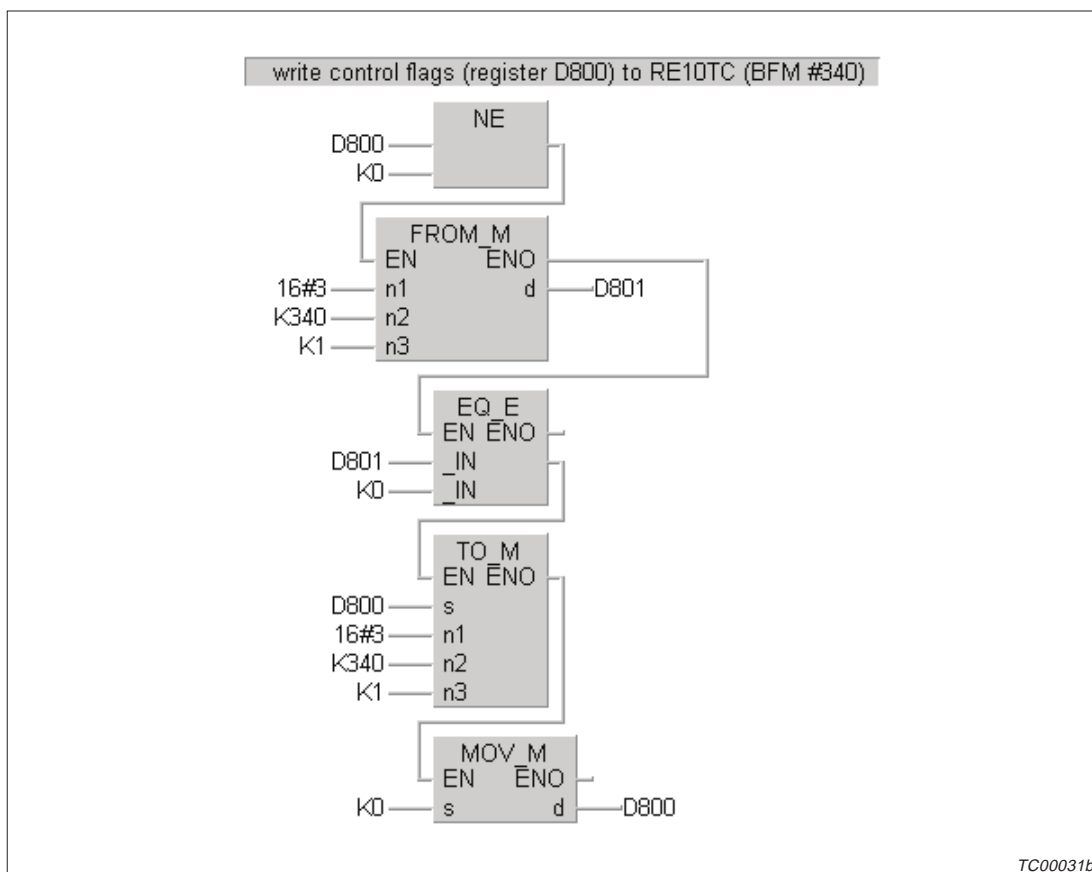

Fig. 5-2: Example of writing to the control word BFM #340
- These parts of the program simply set bits in register D800. The example program in figure 5-2 writes the contents of register D800 in the control word (BFM #340) of the temperature control module.